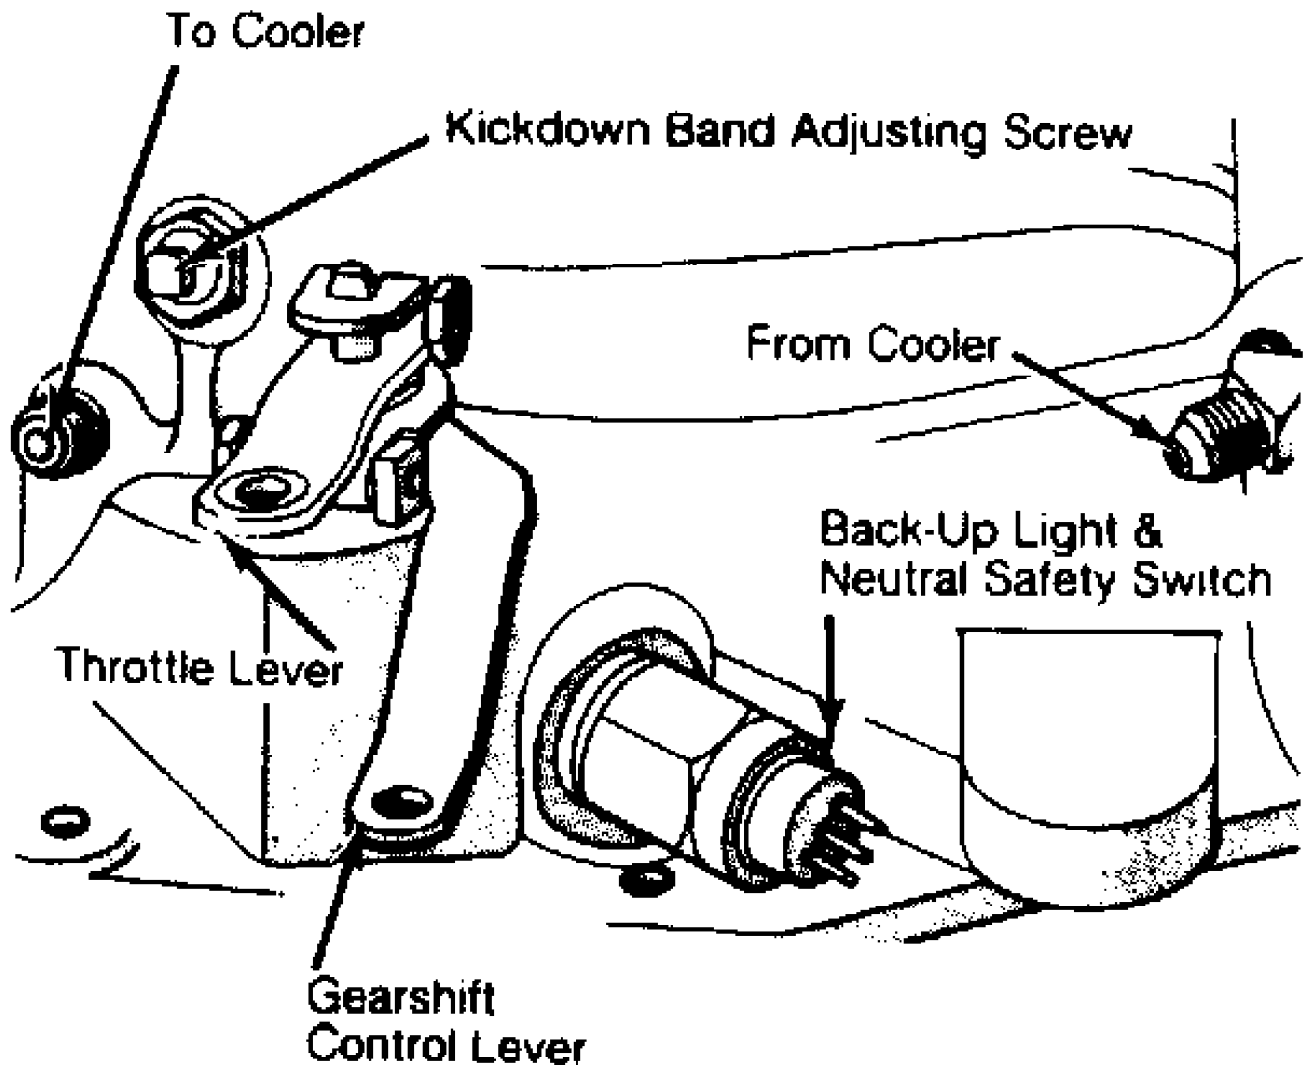

Fig. 1: Adjusting Kickdown (Front) Band
1) Locate kickdown band adjusting screw on left side of case (near throttle lever shaft). See Fig. 1. Loosen adjusting screw lock nut and back off 4-5 turns. Ensure adjusting screw turns freely in case.